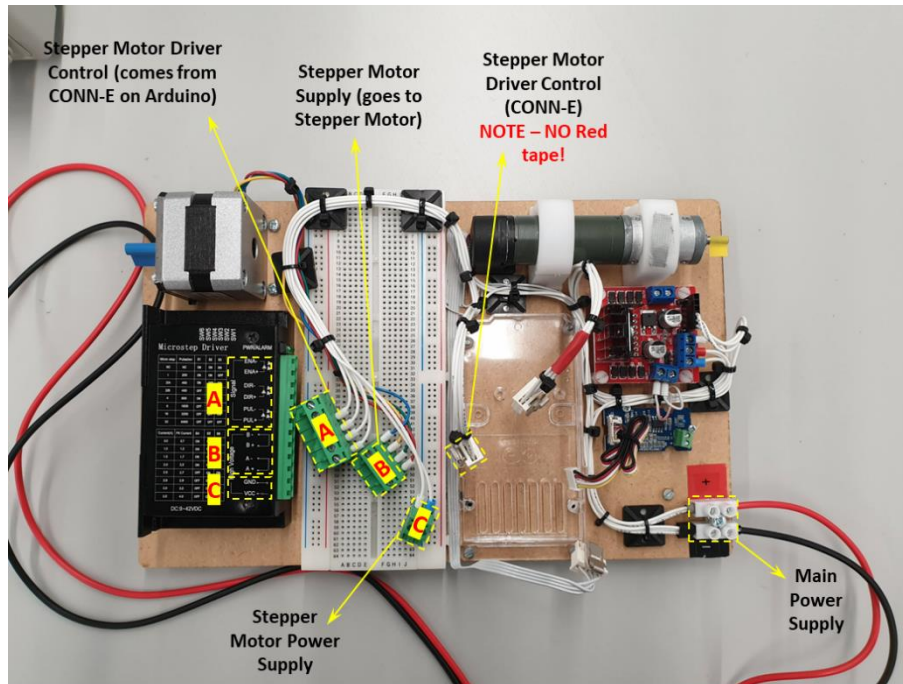

Figure 21 Hardware setup for Lab-2 Exercise-2
- b. “**Stepper Motor Driver Control – A**” to **Stepper Motor Driver** (see Figure 21 below)
- c. “**Stepper Motor Supply – B**” to **Stepper Motor Driver** (see Figure 21 below)
- d. “**Stepper Motor Power Supply – C**” to **Stepper Motor Driver** (see Figure 21 below)